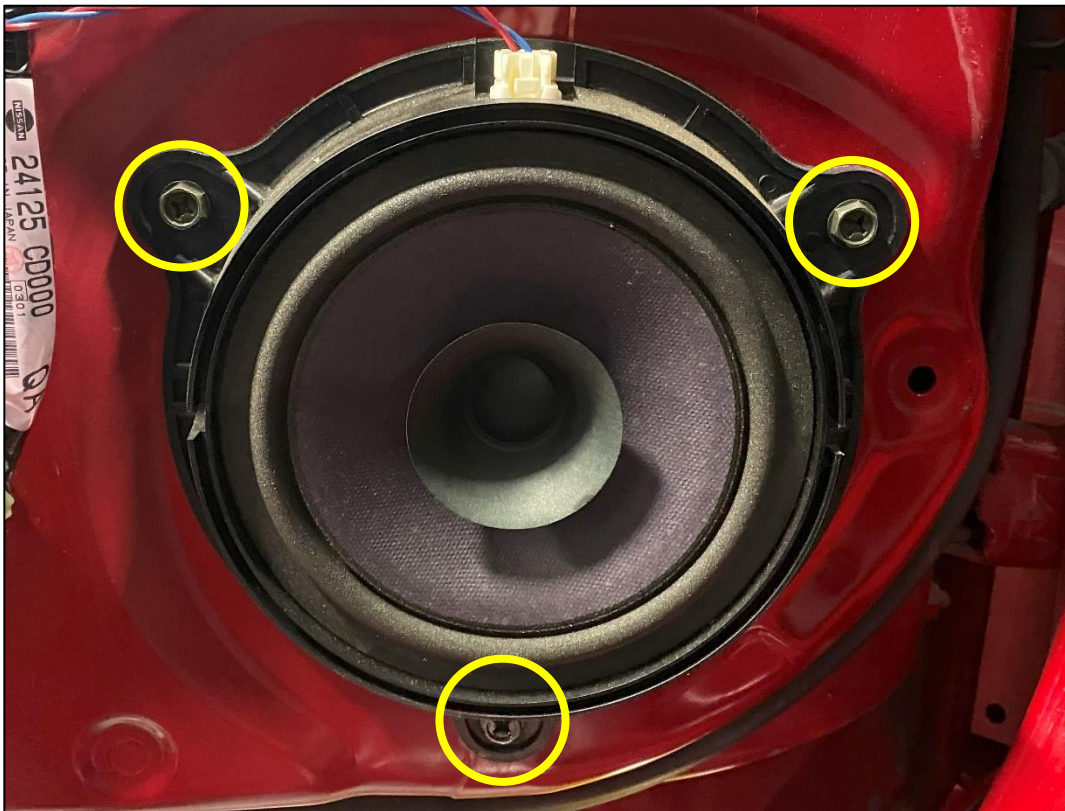

Figure 8
12. Remove the (3) three bolts securing the Speaker to the Door Panel. *Figure 8.*